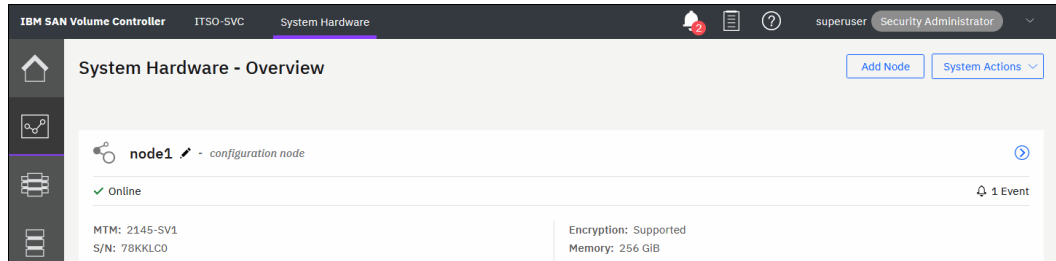

Figure 2-50 Add Node button
1. In the GUI, select **Monitoring** → **System Hardware**. When a new enclosure is detected by a system, the **Add Node** button appears on the System - Overview window next to System Actions, as shown in Figure 2-50.